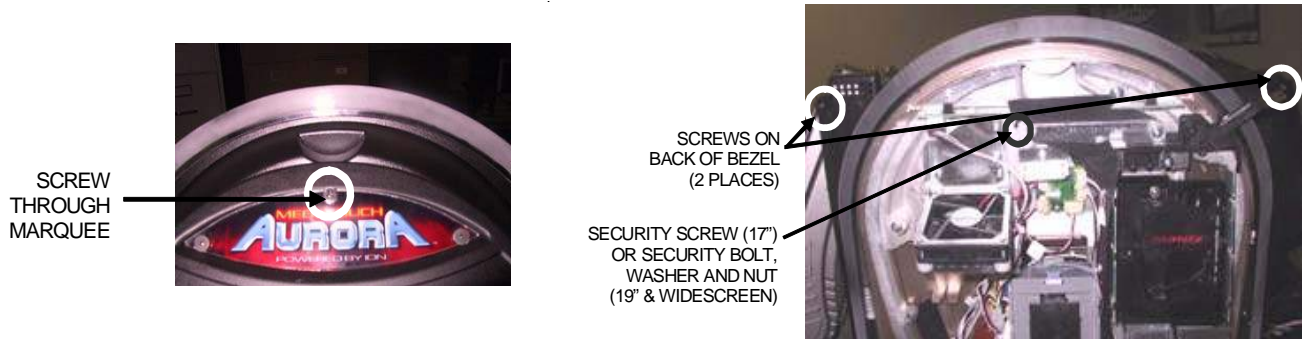

FIGURE 4 - SCREWS ON FRONT AND BACK OF BEZEL
7. Place something in front of the game to brace the bezel once the strain relief cord is undone, then remove the screw at the center of the marquee bezel and the 2 screws on the back of the bezel. For 17" games, remove the security screw inside the CPU section; for 19" and Widescreen games, remove the nut and washer securing the security bolt inside the CPU section. See Figure 4.
40. Close the monitor assembly completely and fasten with two screws in the back of the bezel, once screw in the front of the game (through the marquee), and one security screw (17" models) or the security washer and nut (19" and Widescreen models). See Figure 4 for screw locations.